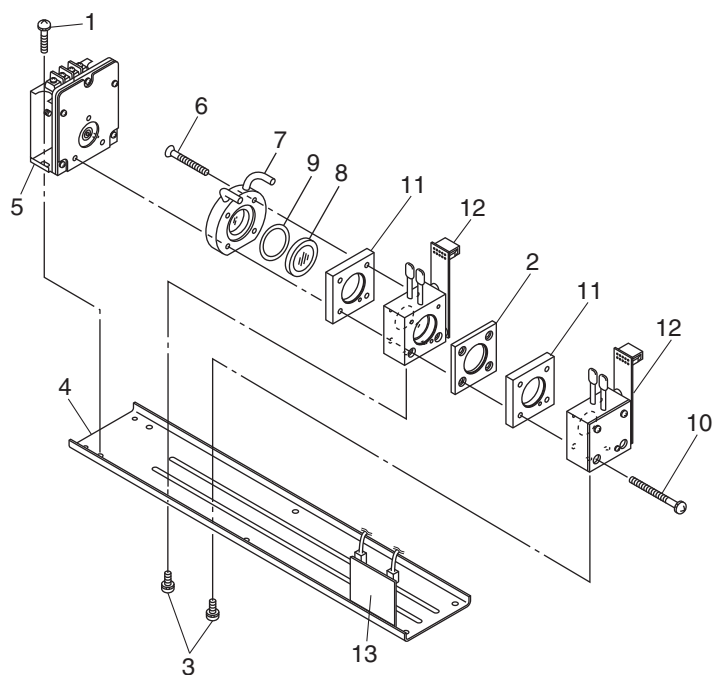

Fig. 7-1 Configuration of measuring unit (block cell)
a. How to remove block cell (See Fig. 7-1)